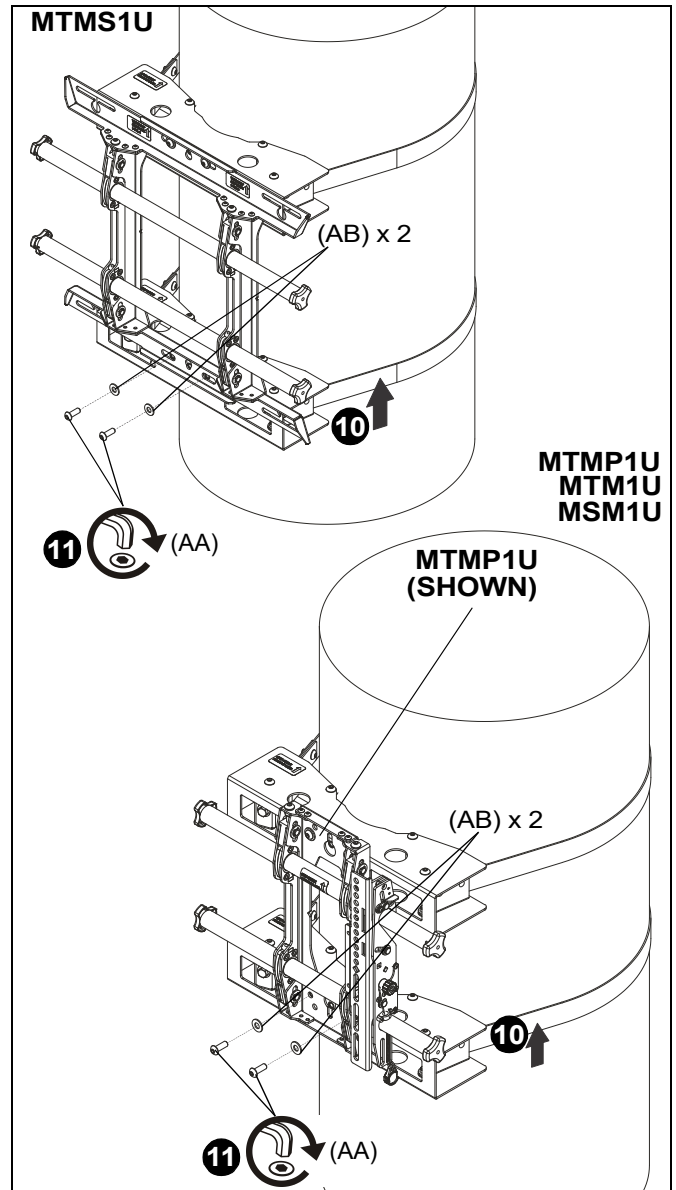

Figure 6
- Install lower column clamp (D) following Steps 1-4, aligning it with the lower mounting hole on mount. (See Figure 6)
- Use two 5/16-18 x 7/8" button head cap screws (AA) and two .750x.350x.060 spacers (AB) to secure mount to lower column clamp (D). (See Figure 6)